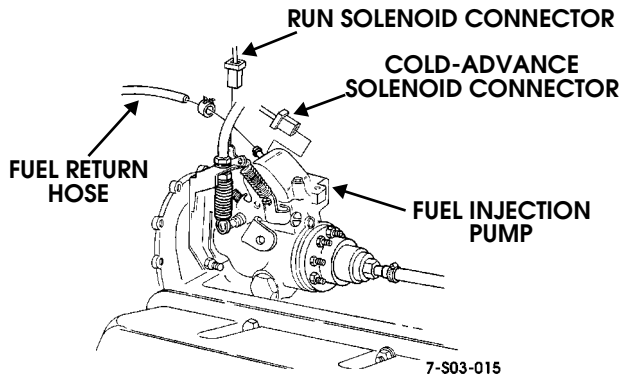

Figure 3-59: NA Diesel Injection Pump Hose and Solenoid Connections
1. Disconnect fuel return hose from pump (Figure 3-59).